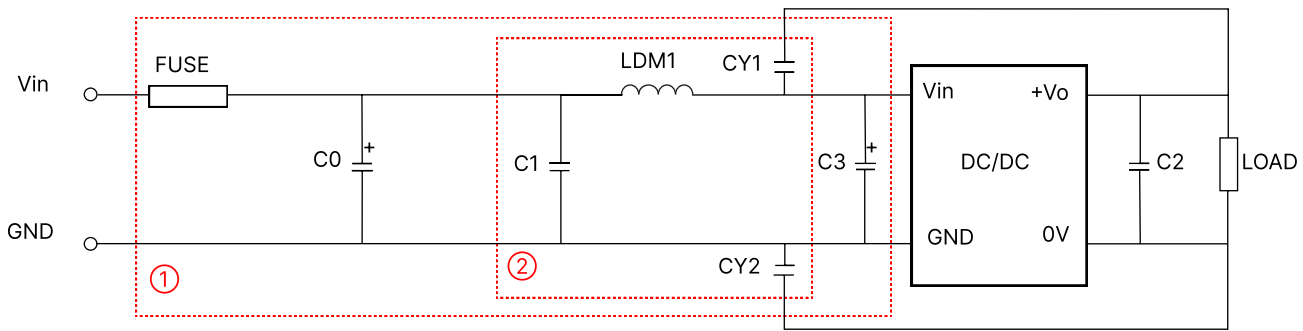

Figure 2: EMC Typical Recommended Circuits
Radiation disturbance	CISPR32/EN55032 CLASS A (without extra components)/ CLASS B (see Fig.2-② for recommended circuit)
C2	Refer to the Cout in Fig.2
2. EMC requirements: For situations with high EMC requirements, a typical EMC recommended circuit is shown in Figure 2.